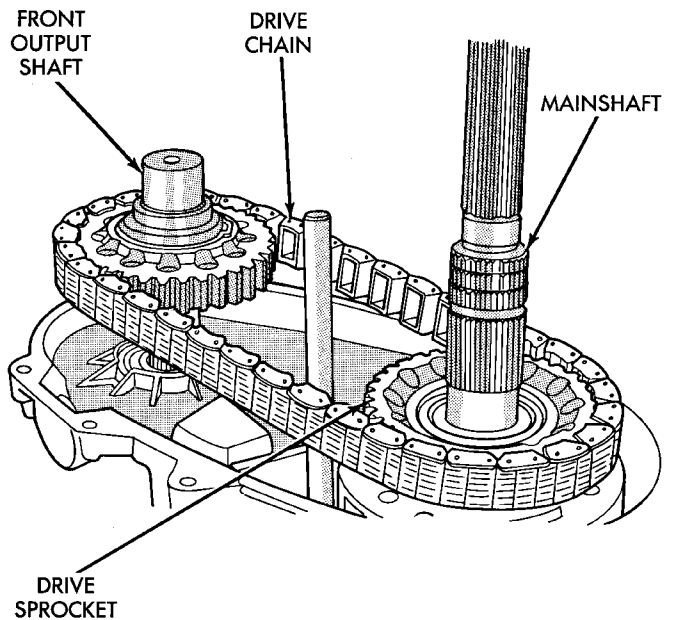

Fig. 64 Installing Drive Chain, Front Output Shaft And Drive Sprocket
- (1) Lubricate front output shaft-sprocket assembly, drive chain and drive sprocket with transmission fluid.
- (2) Assemble drive chain, drive sprocket and front output shaft (Fig. 64).
- (3) Start drive sprocket on mainshaft.
(4) Guide front shaft into bearing and drive sprocket onto mainshaft drive gear (Fig. 64).